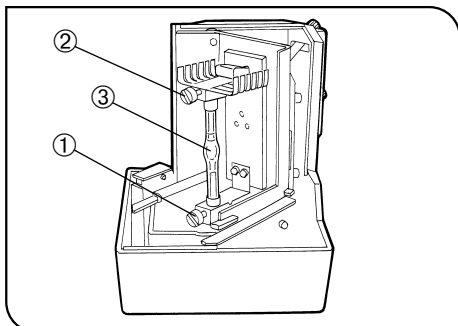

Fig. 5
3 Assembling the Lamp Housing (Figs. 5 - 8)
1. Remove the burner mount holder for transportation by loosening the burner clamping screws ① and ② (Fig. 5). (Also remove the old burner in case of burner replacement.)
2. Place a mercury burner ③ with the + pole down, and tighten the + pole with the screw ①.